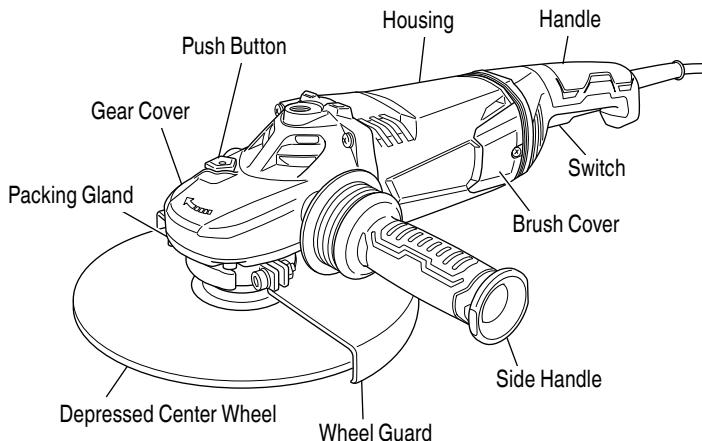

Fig. 1
- Hold the grinder firmly by its handle and side handle (Fig. 1)